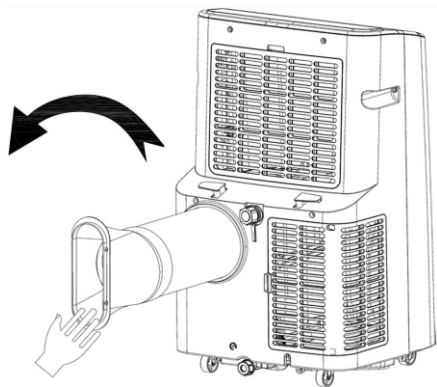

Figure 1
- 1.1 Install the heat pipe assembly (as shown in Figure 1): screw the heat pipe assembly (exhaust fitting end) into the exhaust port on the rear panel (counterclockwise).